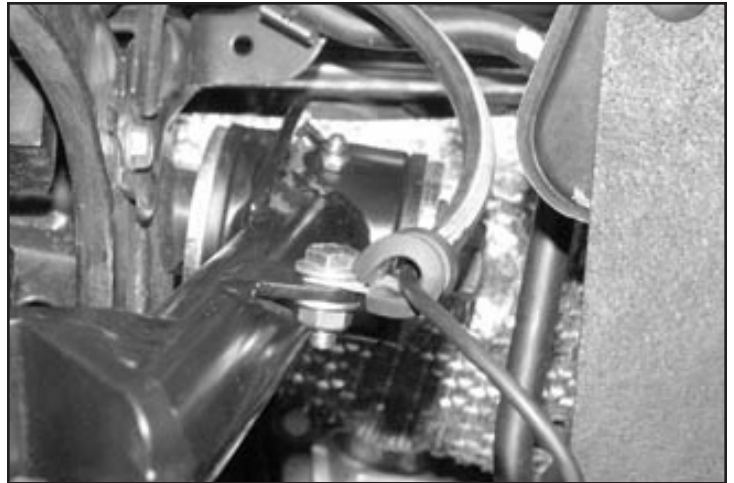

FIGURE 43
34. Locate the FTclamp, 1/4 -20 x 1/2 bolt, nut and washer. Attach the wheel speed sensor to the tab on the upper control arm with the clamp and hardware. Torque to 10 ft-lbs. **SEE FIGURES 43**